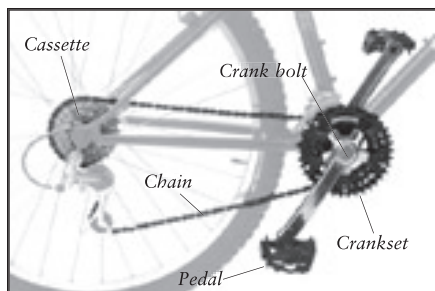

Figure 2- Drivetrain parts
The crankset is part of the drivetrain, the group of parts on the bicycle that transmit power to the rear wheel (Figure 2):
- Crank bolt (Figure 2): 360-415 lb·in (41-47 Nm)
The left crank arm is held in place by a crank bolt (Figure 2).